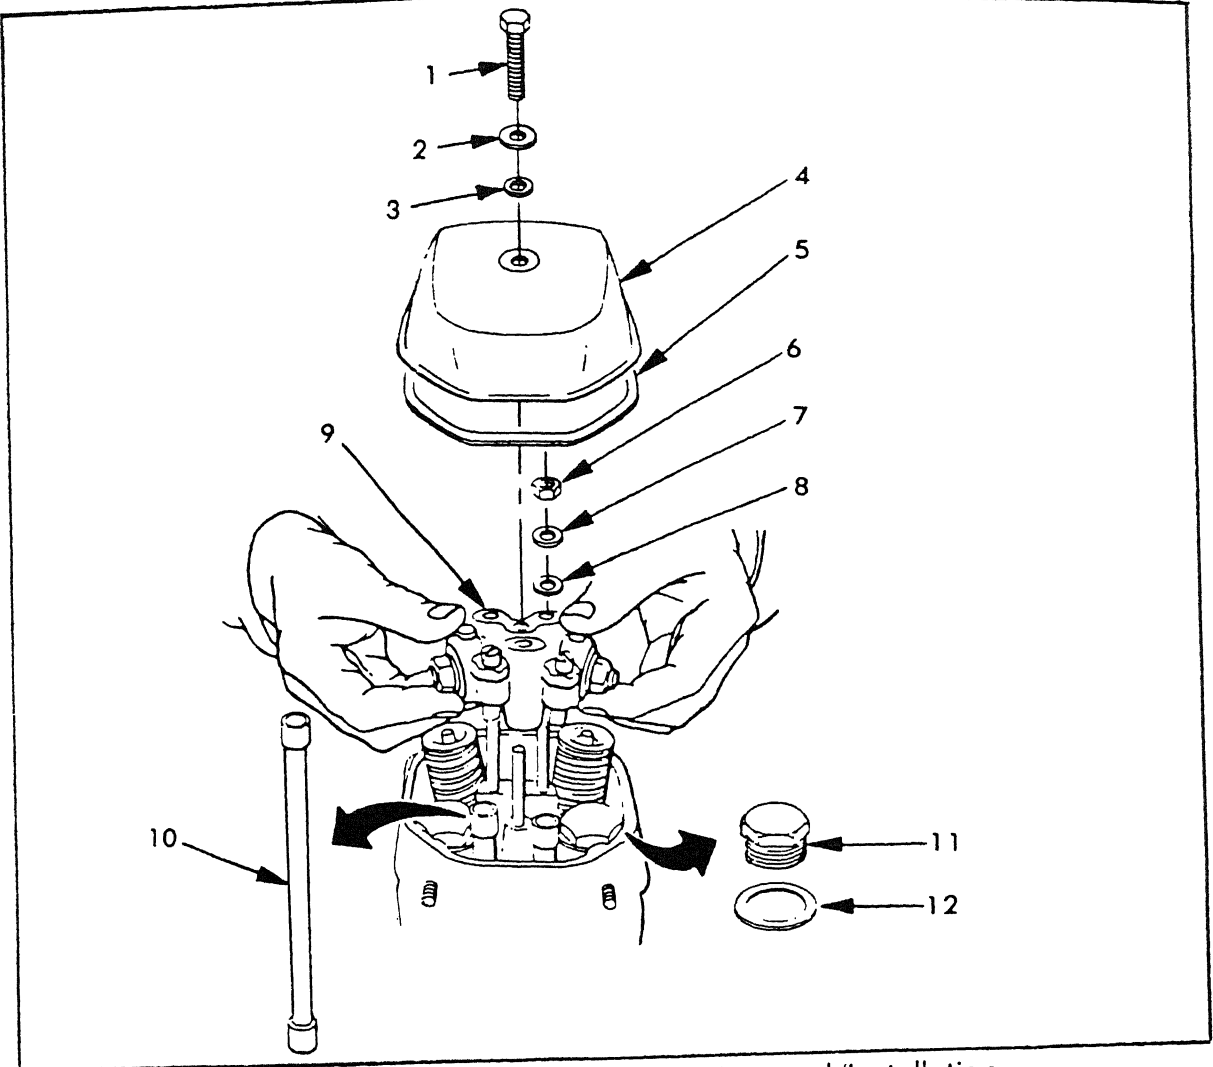
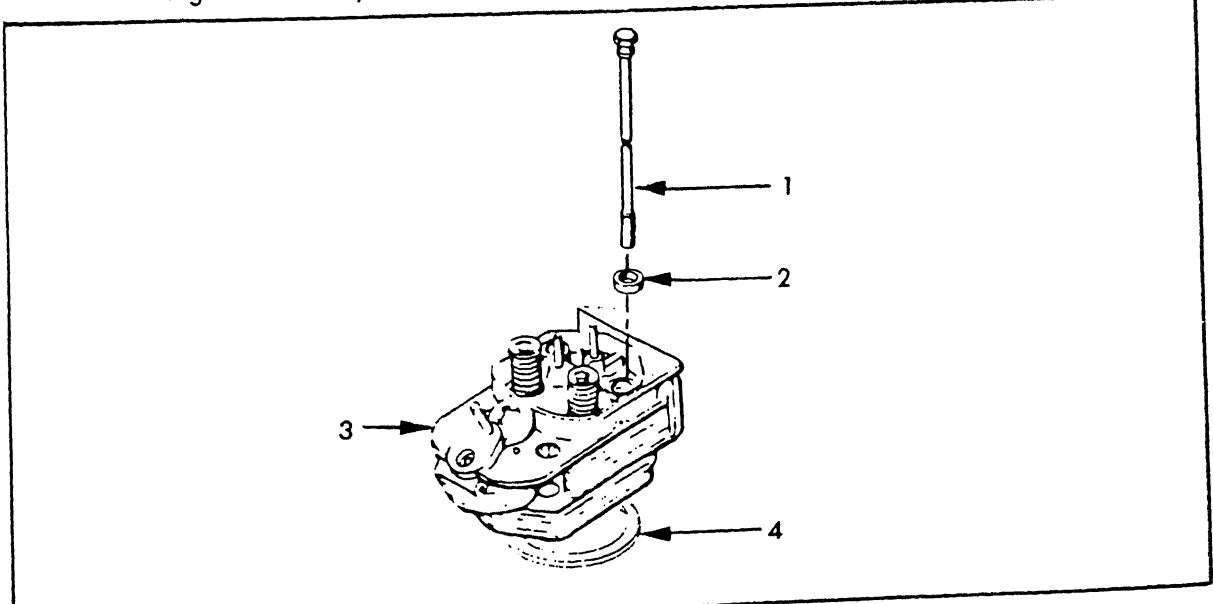
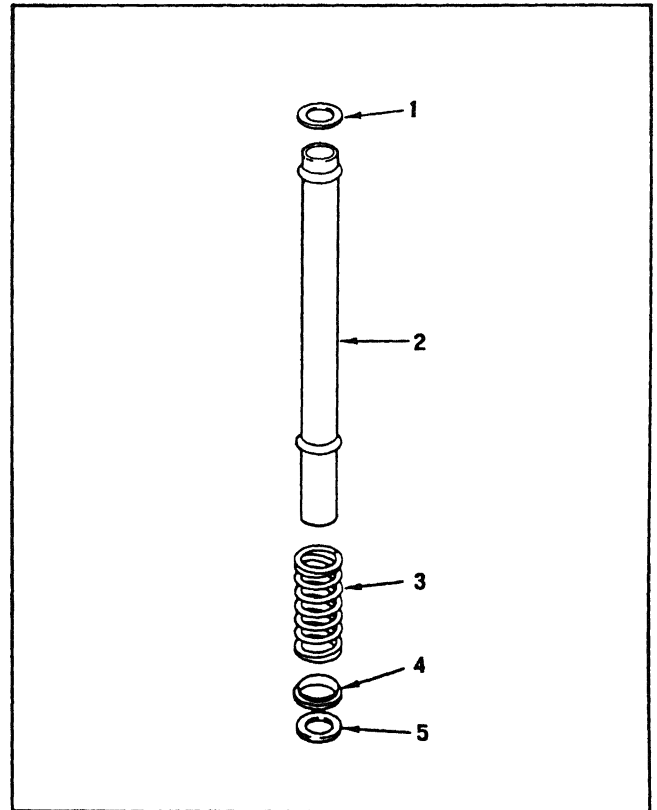

Figure 5-53. Cylinder Head Components, Removal/Installation
Figure 5-54. Cylinder Head, Removal/Installation
Figure 5-55. Pushrod Cover Tube, Assembly/Disassembly
- (1) Remove injection nozzle. (para 4-37c)
- (2) Remove intake manifold and muffler. (para 5-15).
- (3) Remove engine cowlings. (para 5-16)
- (4) Remove rocker cover bolt (1, figure 5-53) and washers (2) and (3).
- (5) Remove rocker cover (4) and gasket (5).
- (6) Remove three nuts (6), lockwashers (7), flat washers (8) and rocker arm assembly (9).
- (7) Remove two pushrods (10) from cylinder head.
- (8) Remove two cover plugs (11) and gaskets (12).
- (9) Remove four head bolts (1, figure 5-54) and washers (2).
- (10) Slowly lift cylinder head (3) from cylinder while keeping cover tubes steady; then remove the two tube assemblies.
- (11) Remove washer (1, figure 5-55), tube (2), spring (3), cap (4), and washer (5) from each cover tube assembly.
- (12) Remove intermediate ring (4, figure 5-54).
- (3) Measure length of each cylinder head bolt (1, figure 5-54).
- (11) Install the cover plugs (11, figure 5-53) with new gaskets (12) and torque plugs according to Appendix F.
- (12) Using spring tensioning tool, assemble and compress spring (3, figure 5-55) on pushrod cover tube.
- (13) Assemble cap (4) with open side towards spring.
- (14) Install a new washer (5), with wide end face toward end of tube (2).
- (15) Install a new washer (1), with wide end face toward upper shoulder on tube.
- (16) Insert spring end of cover tube in crankcase hole. Position upper end of cover tube with cone in cylinder head.
- (17) Slowly remove spring tensioning tool while guiding upper end of tube into cylinder head.
- (18) Repeat steps (12) through (17) for the other tube assembly.
- (19) Check that upper and lower cover tube washers are properly seated.
- (20) Install push rods (10, figure 5-53) with cup ends up.
- (21) Install rocker arm assembly (9) with flatwashers (8), lockwashers (7) and nuts (6).
- (22) Adjust valve clearance (See para 4-36).